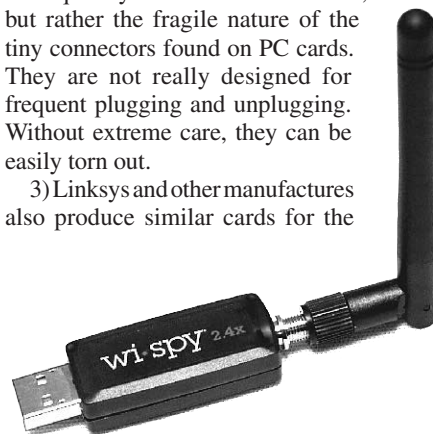

Fig 19 — At the client end of the HSMM link, a simple wireless adapter will do. This USB model allows the user to remove the flexible antenna.
2) Another type of transceiver/adapter comes with a USB interface, such as the one shown in **Fig 19**. This is often considered a superior interface for most HSMM stations. The reason for this has nothing to do with the quality of the transceiver, but rather the fragile nature of the tiny connectors found on PC cards. They are not really designed for frequent plugging and unplugging. Without extreme care, they can be easily torn out.